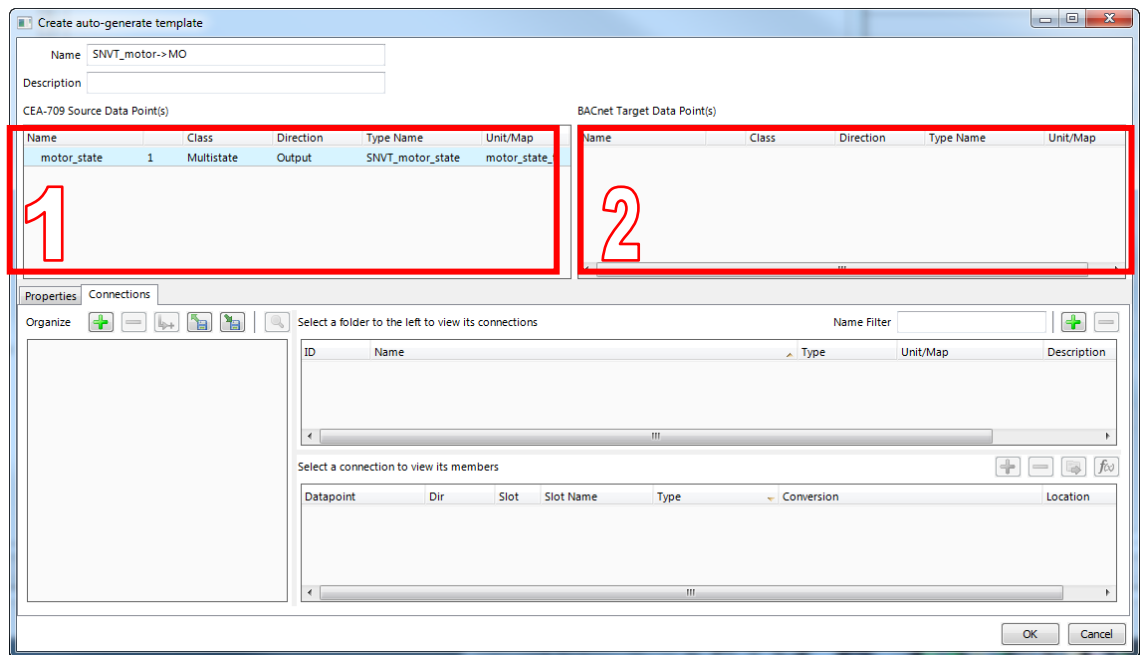

Figure 53: Auto-generate template editor.
- The auto-generate template editor opens as shown in Figure 53. It contains two data point lists. The left-hand (denoted '1') list is pre-filled and contains the selected source data points. They are locked and cannot be modified. The right-hand list (denoted '2') is intended for creating the desired target data points.
3. The auto-generate template editor opens as shown in Figure 53. It contains two data point lists. The left-hand (denoted '1') list is pre-filled and contains the selected source data points. They are locked and cannot be modified. The right-hand list (denoted '2') is intended for creating the desired target data points.